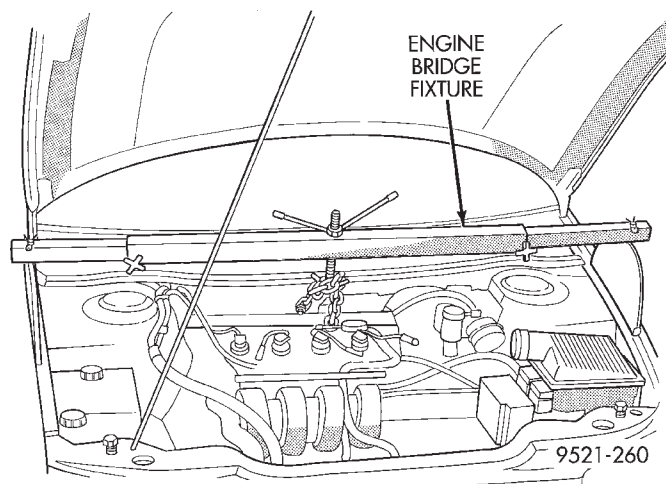

Fig. 28 Engine Bridge Fixture
- (12) Remove vehicle speed sensor.
(13) Remove back up lamp wiring at transaxle.
(14) Install engine bridge fixture and support engine (Fig. 28).
(15) Lift vehicle on hoist and remove front wheels.
(16) Drain fluid from transaxle.
(17) Remove both front driveshafts. Refer to Group 2, Suspension for procedure.